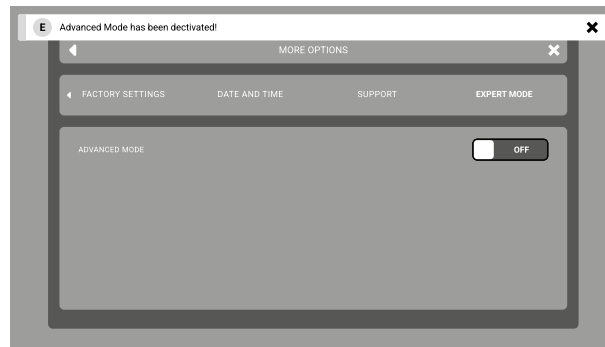

Fig.13.5 Screen confirming Expert Mode is disabled.
4. To confirm whether deactivation has been completed please see if the Expert Mode icon in the upper left corner has disappeared and check the **SETTINGS** (Fig. 13.5).